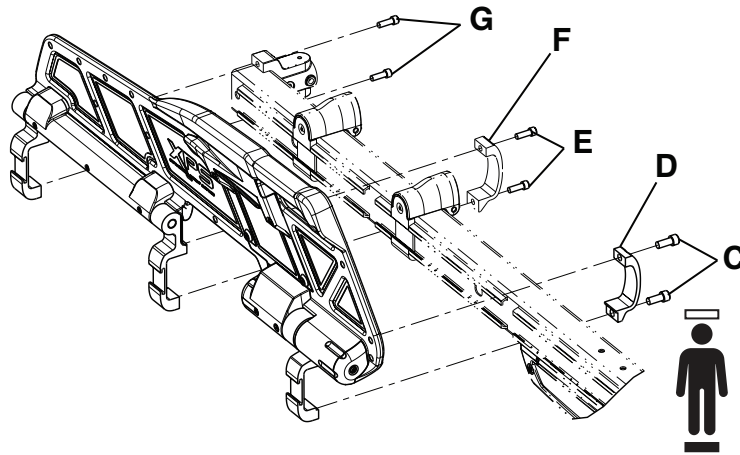

Figure 9 – Remove the siderail assembly
5. Using a 1/4" hex wrench, remove the socket head cap screws (C) that secure the siderail clamp (D) to the ratchet assembly at the foot end of the main assembly (Figure 9). Save the screws.
6. Using a 3/16" hex wrench, remove the two socket head cap screws (E) that secure the middle siderail clamp (F) to the outer rail assembly (Figure 9). Save the screws.
7. Using a 3/16" hex wrench, remove the two socket head cap screws (G) that secure the top and bottom of the base/litter interface bracket to the outer rail assembly (Figure 9). Save the screws.